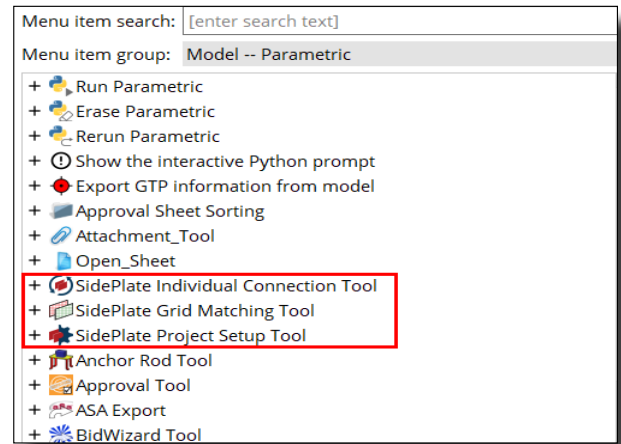

Figure 1: Toolbar Configuration
4. Select **Model -- Parametric** for the **Menu item Group**, as shown in Figure 1.